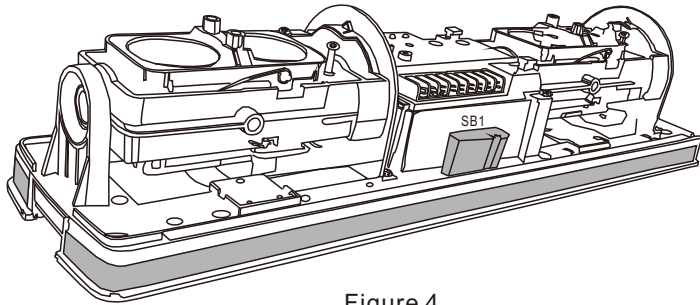

Figure 4
Step 5: As shown in figure 4, stick the sponge sticker on the two side of flank surface of detector base (as the black part) and make it addressed properly, trimly and without rumple, also ensure that the sponge block SB1 is stuffed into wiring output window properly, for anti-heat dissipation. Otherwise, it may affect lower limit temperature.